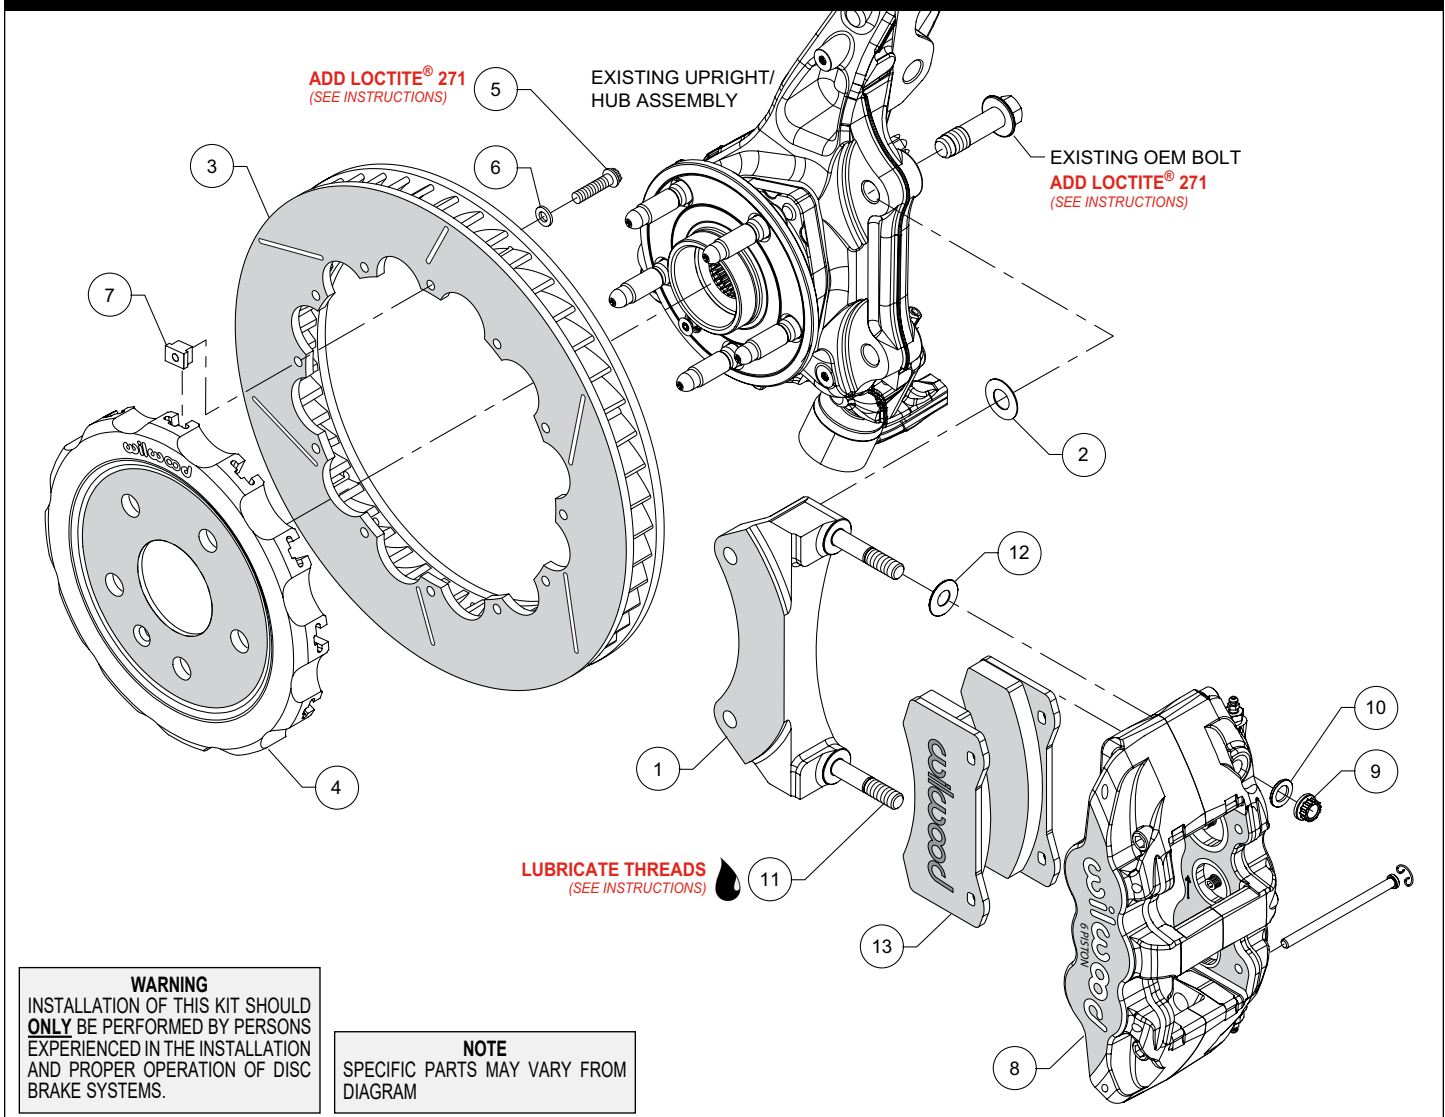
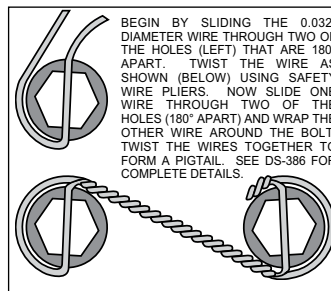

Figure 1. Typical Installation Configuration
Figure 4. Safety Wire Diagram
NOTE: Numbers in parenthesis refer to the parts list and Figure 1 on the preceding pages.
- The caliper mount bracket (1) should initially be installed with clean, dry threads on the mounting bolts. Orient the bracket, as shown in Figure 1 and Photo 1, and install using saved OEM caliper mounting bolts. Initially place one .029" thick shim (2) on each bolt between the bracket and upright, Figure 1. Temporarily tighten the mounting bolts. **NOTE:** *The bracket must fit squarely against the mount bosses on the upright.* Inspect for interference from casting irregularities, machining ridges, burrs, etc. Later, after the caliper alignment has been checked, the mount bolts will be secured using red *Loctite*® 271.
- Orient the rotor (3) and the hat (4) as shown in Figure 1 and Photo 2. Attach rotor to hat using bolts (5), washers (6), and t-nuts (7), Figure 1. Follow additional instructions included with the bolt kit. Using a criss-cross pattern, apply red *Loctite*® 271 to the threads, and torque to 120 **in-lbs**. For an added measure of security, the bolts may be safety wired using standard 0.032 inch diameter stainless steel safety wire as shown in Figure 4. Refer to Wilwood's data sheet DS-386 (available at www.wilwood.com/Pdf/DataSheets/ds386.pdf) for complete safety wire installation instructions.
- NOTE:** *This kit contains distinct right and left hand calipers that must be mounted in a specific direction, as described below.* Lubricate the caliper mounting studs (11) with lightweight oil. Initially place one .030" thick shim (12) on each stud between the caliper and the bracket, as shown in Figure 1 and Photo 3. Mount the caliper (8) onto the bracket (1) using lock nuts (9) and washers (10), Figure 1. Temporarily tighten the lock nuts. Ensure that the caliper is mounted so the largest pistons are at the rotor exit end of the caliper, in relation to the direction of the rotor. View the rotor through the top opening of the caliper. The rotor should be centered in the caliper, Photo 4. If not, adjust by adding or subtracting shims (2) between the bracket and the upright. Always use the same amount of shims on each of the two mounting bolts. Once the caliper alignment is correct, remove the bracket mounting bolts one at a time, apply red *Loctite*® 271 to the threads, and torque to manufacturer's specifications.
- Remove the two pad retaining pins from the caliper (8) by carefully popping out the pin retaining clips and sliding out the pins. Insert the brake pads (13) into the caliper from the bottom, Figure 1 and Photo 5. With the friction material facing the rotor, secure the brake pads in place with the pad retaining pins and clips, Photo 6. Reinstall the caliper onto the caliper mounting bracket and temporarily tighten the lock nuts. Check that the top of the brake pad is flush with the outside diameter of the rotor, Photo 7. If not, adjust by adding or subtracting shims (12) between the caliper and the bracket. After the caliper pad height is set, torque the caliper lock nuts (9) to 47 ft-lb.